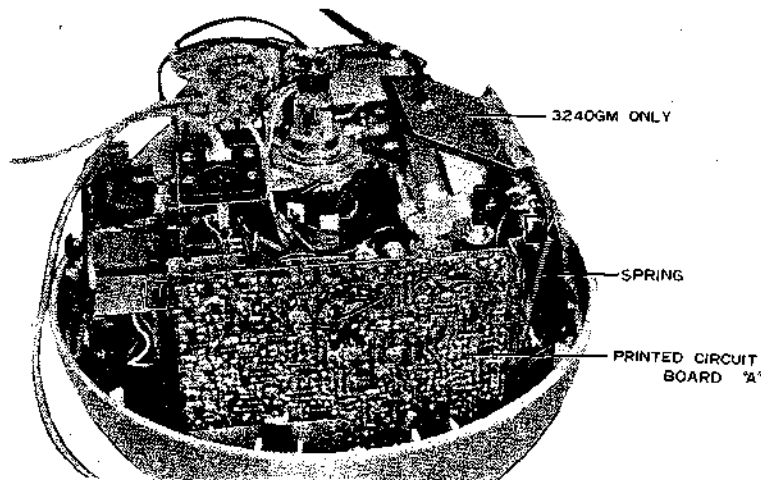

Fig. 6
2. In case of Printed Circuit Board "A" (Fig. 6). Remove an arrow head screws and disconnect spring indicated in Fig. 6. and pull off Printed Circuit Board.